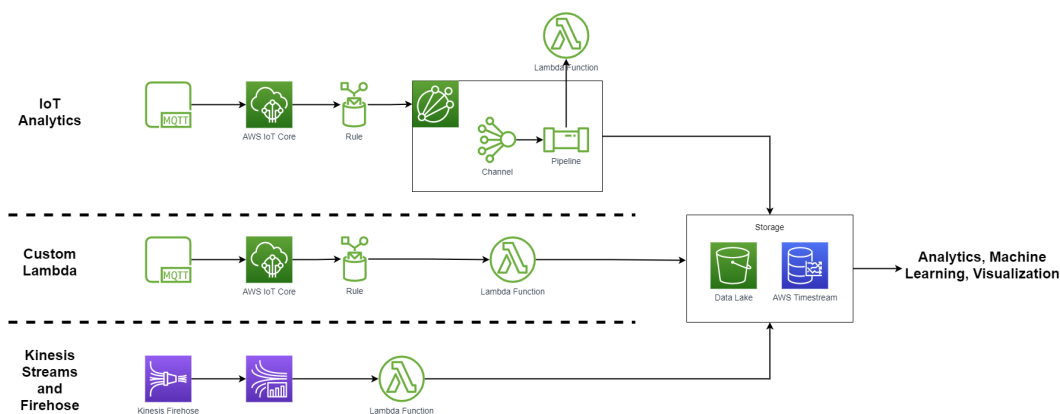

Figure 6.6 – IoT data processing route options
*Figure 6.6* illustrates some of the options discussed in previous chapters around data integration and processing from an IoT environment. This is a simplified view of the options designed to help you understand some of the choices you might make depending on your environment and goals.